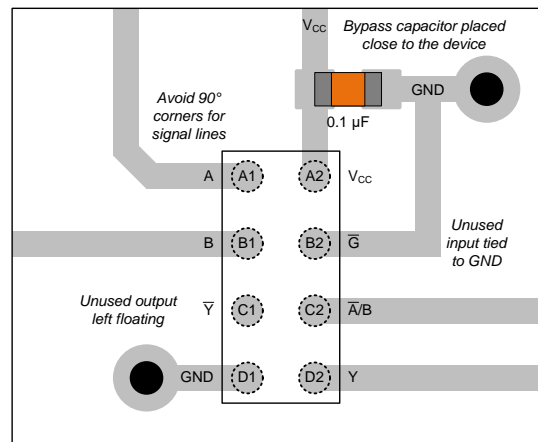

Figure 7. Example layout for SN74LVC2G157
1. Add a decoupling capacitor, typically 0.1  $\mu\text{F}$ , from  $V_{CC}$  to GND. The capacitor needs to be placed physically close to the device and electrically close to both the  $V_{CC}$  and GND pins. An example layout is shown in Figure 7.
The power supply can be any voltage between the minimum and maximum supply voltage rating located in the Recommended Operating Conditions. Each  $V_{CC}$  terminal should have a good bypass capacitor to prevent power disturbance. A 0.1- $\mu\text{F}$  capacitor is recommended for this device. It is acceptable to parallel multiple bypass caps to reject different frequencies of noise. The 0.1- $\mu\text{F}$  and 1- $\mu\text{F}$  capacitors are commonly used in parallel. The bypass capacitor should be installed as close to the power terminal as possible for best results, as shown in Figure 7.